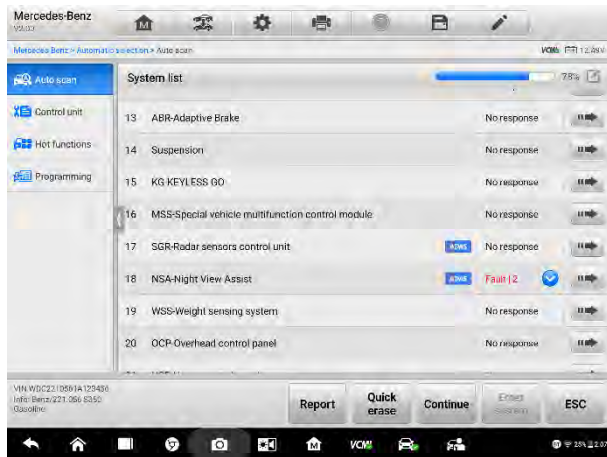

Figure 5-1 Sample System List Screen
3. Tap the grey arrow icon (**Figure 5-1 System list**) on the right of the entry to enter a screen with code results dropdown.